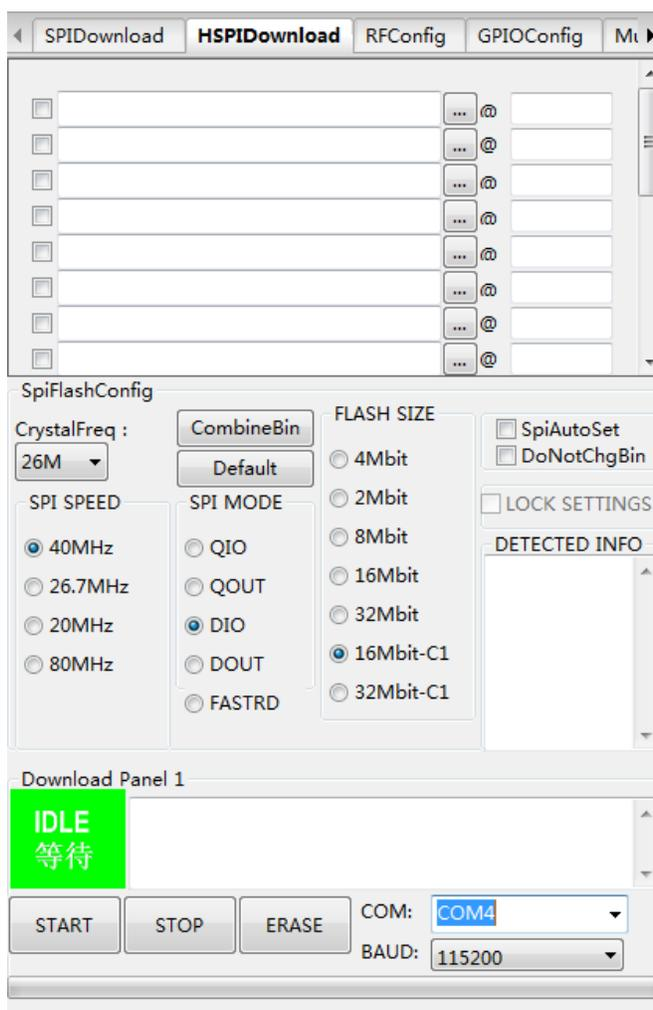

Figure 4-12. ESP8266 DownloadTool — HSPIDownload
- Here, the HSPIDownload tab should be selected, **CrystalFreq** should be set to 26 M and the **SPI MODE** should be set to **QIO** or **DIO** based on your actual case, as shown in Figure 4-12. Otherwise, the downloaded firmware may not be running as expected.